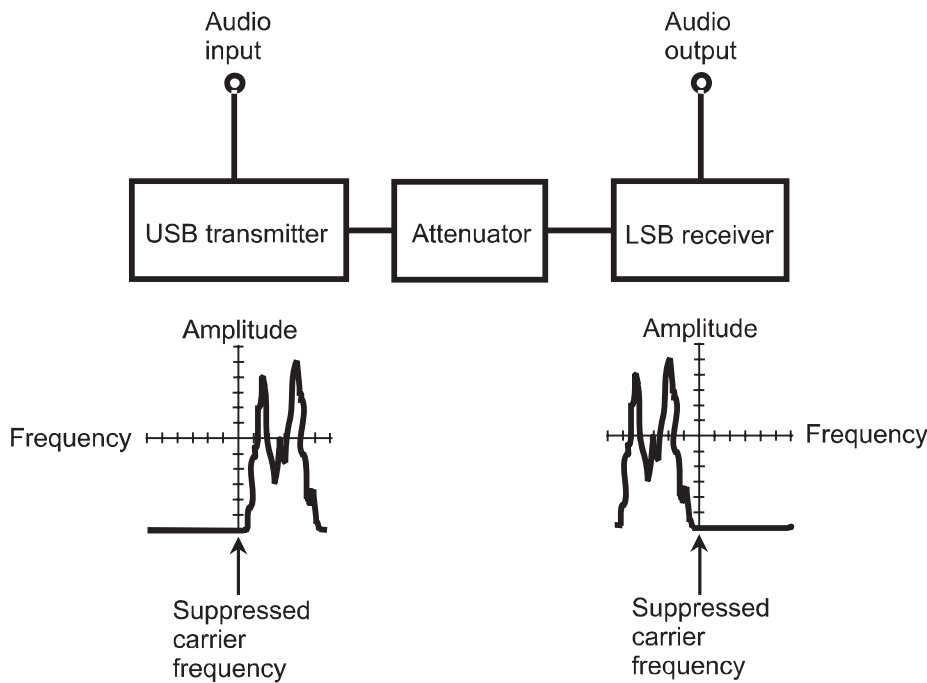

Fig. 11-13. A simple voice scrambling and descrambling circuit.
*Audio scrambling* is an older technology that is less sophisticated than modern encryption and more subject to interception. An amateur-radio single-sideband (SSB) transmitter and receiver can demonstrate basic scrambling (Fig. 11-13). The transmitter is connected to a *dummy antenna* and is set for USB operation. The receiver is set for LSB reception, and is tuned about 3000 Hz higher than the transmitter. The receiver is connected indirectly to the transmitter through an *attenuator* that allows only a small signal from the transmitter to get to the receiver antenna terminals.